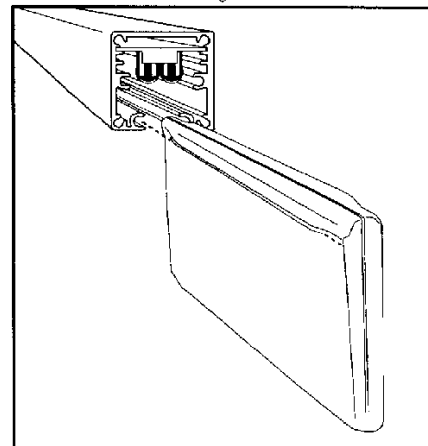

Fig. 3
- Step 4.** Remove lens from foam envelope and slide into extrusion. (See Fig. 3). Be sure to note arrow orientation as required.